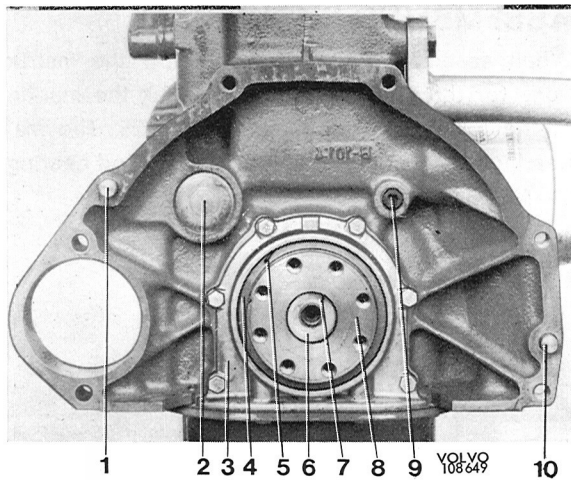

Fig. 2-26. Rear end of engine
2-27) for lubricating the rocker arms is clear. The pilot bearing (6, Fig. 2-26) should be lubricated before installation with heat-resistant ball bearing grease. The bearing and protecting washer are held in position by a circlip (6).